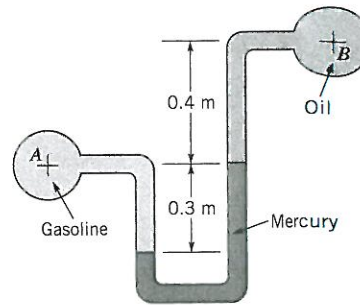

Figure P2.58
2.58 In Fig. P2.58 pipe A contains gasoline ($SG = 0.7$), pipe B contains oil ($SG = 0.9$), and the manometer fluid is mercury. Determine the new differential reading if the pressure in pipe A is decreased 25 kPa, and the pressure in pipe B remains constant. The initial differential reading is 0.30 m as shown.